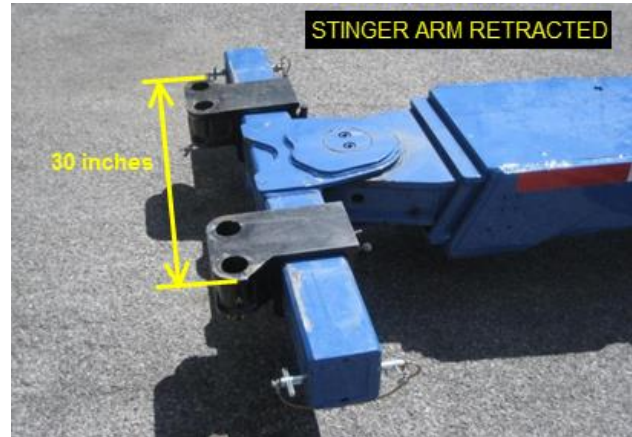

FIGURE 56
3. Retract the tow truck stinger arm (Figure 56).
4. Pre-adjust spacing between the axle fork holders. The spacing between the most distant edges of the fork holders should be **30 inches** (Figure 56).